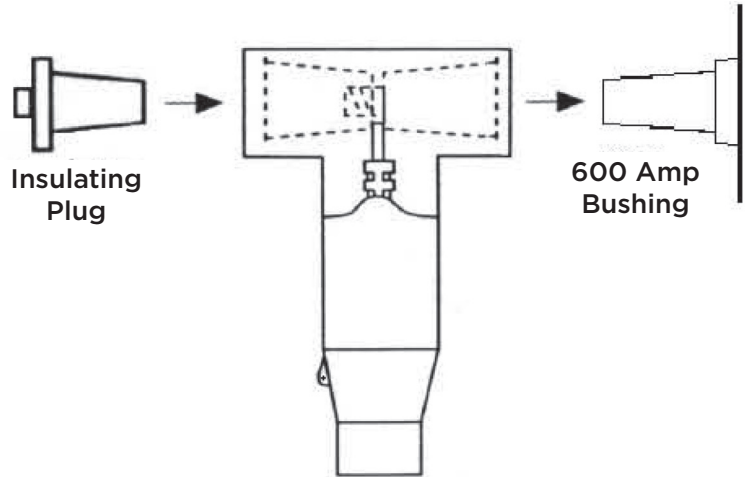

Fig. 11 - Assembly to Bushing Well
- C. Align the T-Body to the apparatus bushing interface. Insert the insulating bushing and hand tighten to prevent cross-threading. Tighten the insulating bushing to 50-60 ft-lbs of torque using a 1" socket and a torque wrench. (See Figure 11.)